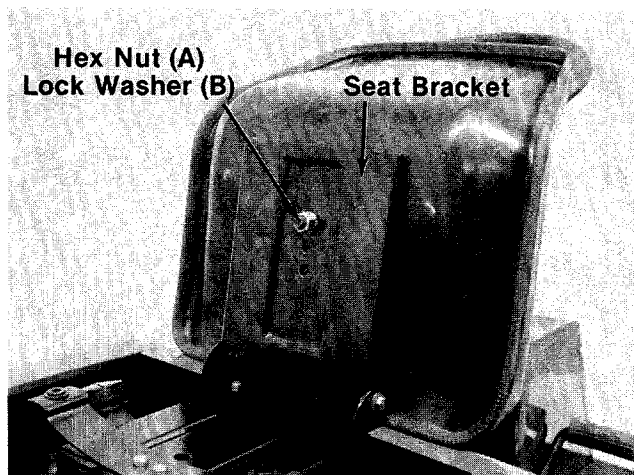

FIGURE 11.
The seat may be adjusted to three different positions. Select the desired seat position and secure the **seat** to the **seat bracket** with **hex nut (A)** and **lock washer (B)**. See figure 11.